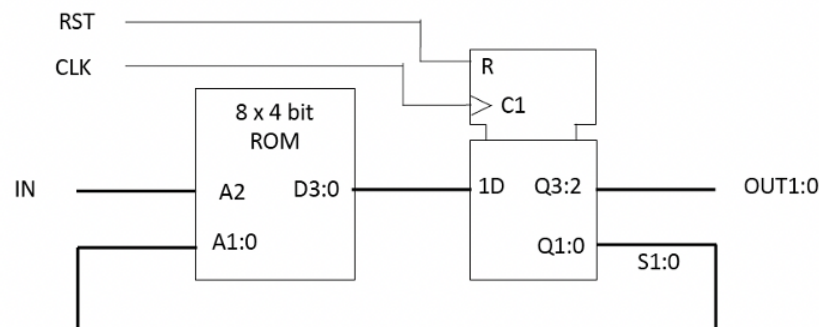

Figure 2.1
2. *Figure 2.1* shows a finite state machine (FSM) with 1-bit input IN and 2-bit output OUT1:0, implemented using an 8 x 4-bit ROM and a 4-bit register. The input IN to the FSM drives the upper bit of the ROM address A2. The output of the ROM D3:0 is connected to the data input of the register. The lower 2 bits of the ROM data D1:0 provide the next state value, which are feedback to the lower 2 bits of the ROM address A1:0 through the state register S1:0. The upper 2 bits of the ROM data D3:2 provide the FSM output value. The reset input RST clears the register.